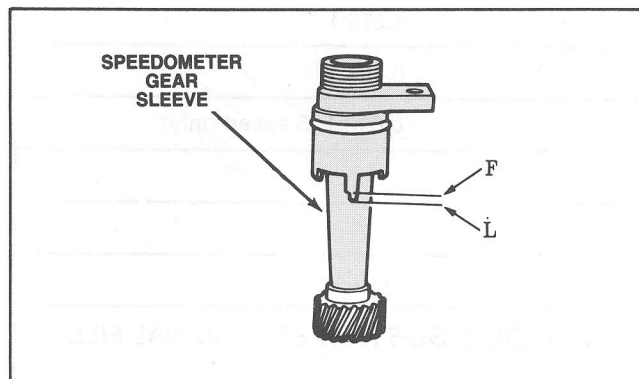

Figure 136 Fluid Level Check
7. Remove the sleeve and check the oil level using the indicator mark on the sleeve. (Figure 136).